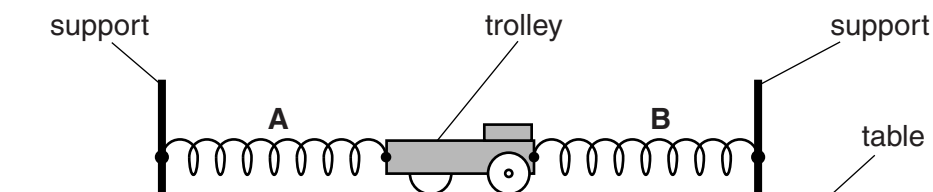

Fig. 3.1
- (b) Fig. 3.1 shows a trolley attached by two **stretched** springs **A** and **B** to fixed supports.
- (i) On Fig. 3.1, draw an arrow to show the direction of the force exerted by spring **A** on the trolley. Label this arrow **F**. [1]